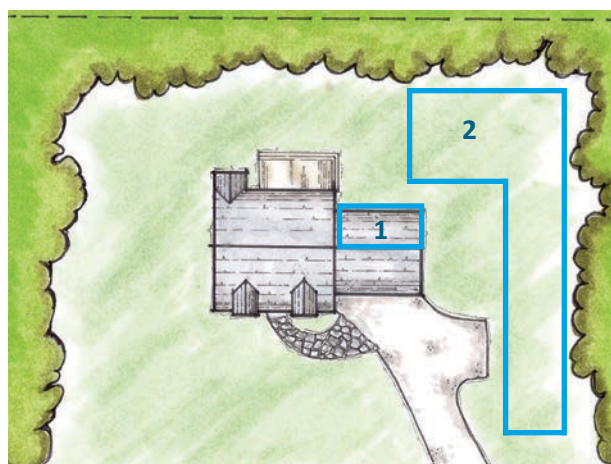

Figure 5. Draw the boundary lines (drainage areas) for stormwater endpoints.
2. Draw a boundary line on your project map around the area that drains to each stormwater endpoint. The boundary line represents the “drainage area” for each stormwater endpoint. For example, if all of the runoff from the back of your garage roof drains to a single gutter downspout, the roof is the drainage area to the stormwater endpoint at the downspout. And if the right side of your yard all drains toward the road, that is a separate drainage area. You can identify these drainage areas on your property map by drawing a line around their perimeters (Figure 5).